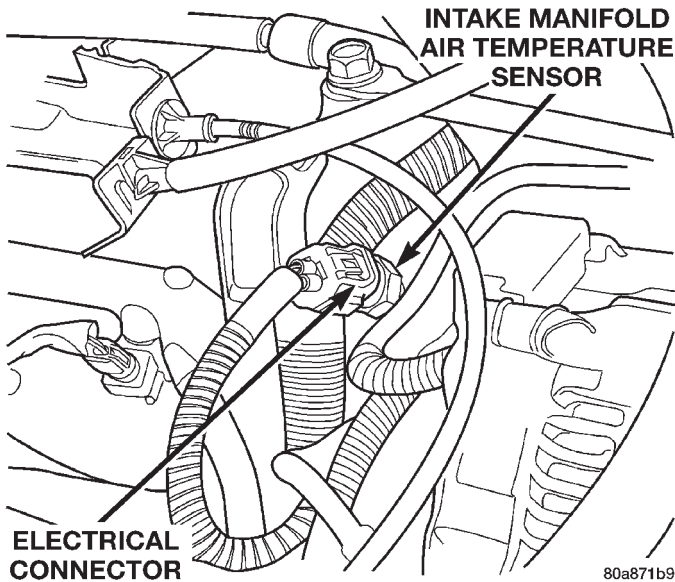

Fig. 27 Air Temperature Sensor—5.2L/5.9L Engines
(9) Inspect fuel tube quick-connect fitting-to-fuel rail connections.
(10) Verify that hose connections to all ports of vacuum fittings on intake manifold are tight and not leaking.
(11) Inspect accelerator cable, transmission throttle cable (if equipped) and cruise control cable connections (if equipped). Check their connections to the throttle arm of throttle body for any binding or restrictions.
(12) If equipped with vacuum brake booster, verify that vacuum booster hose is firmly connected to fitting on intake manifold. Also check connection to brake vacuum booster.
(13) Inspect the air cleaner inlet and air cleaner element for dirt or restrictions.
(14) Inspect radiator grille area, radiator fins and air conditioning condenser for restrictions.
(15) Verify that the intake manifold air temperature sensor wire connector is firmly connected to harness connector (Fig. 27).